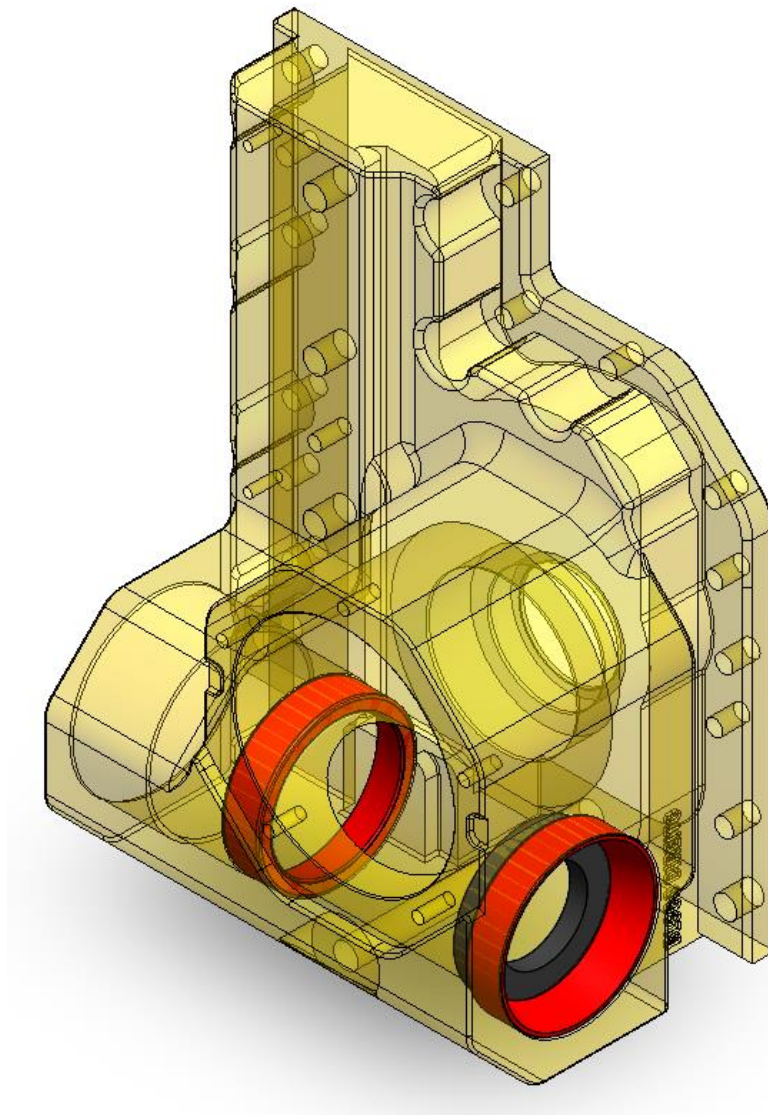

Figure 9
- a. Install the wheel seal (1-4/35) in the block (1-4/5), after installing the outer ring of the bearing (1-4/30), on the right side of the block and the outer ring of the other bearing (1- 4 /30) on the left side of the block. According to Figure 9.